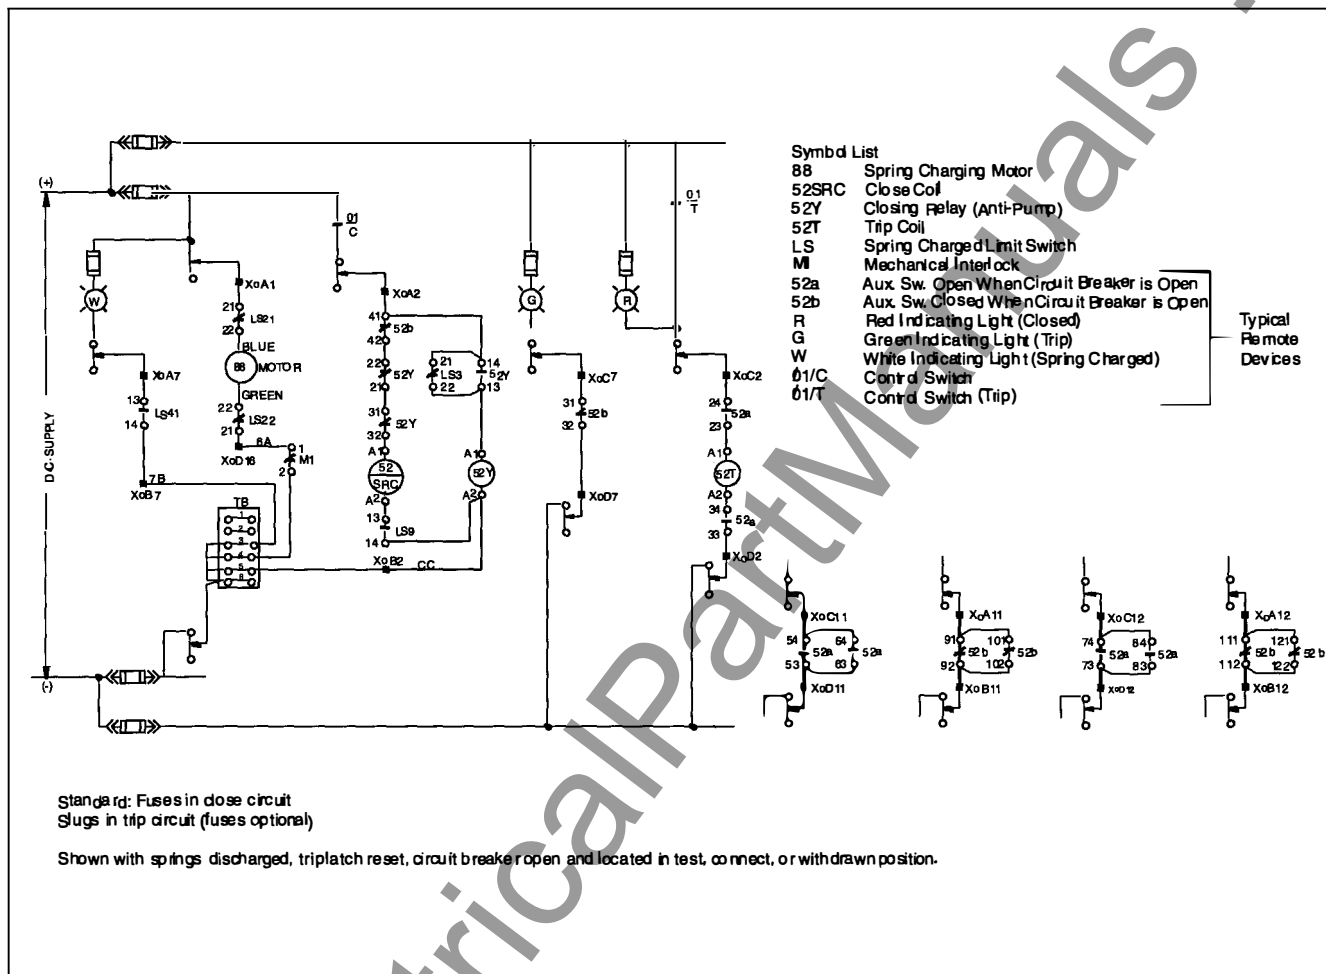

Figure 10. Typical Elementary Diagram
Elementary Diagram (Figure 10)
A typical elementary diagram is shown in Figure 10 for DC motor, close and trip operation.
Undervoltage Release (27) (Figures 10 and 11)